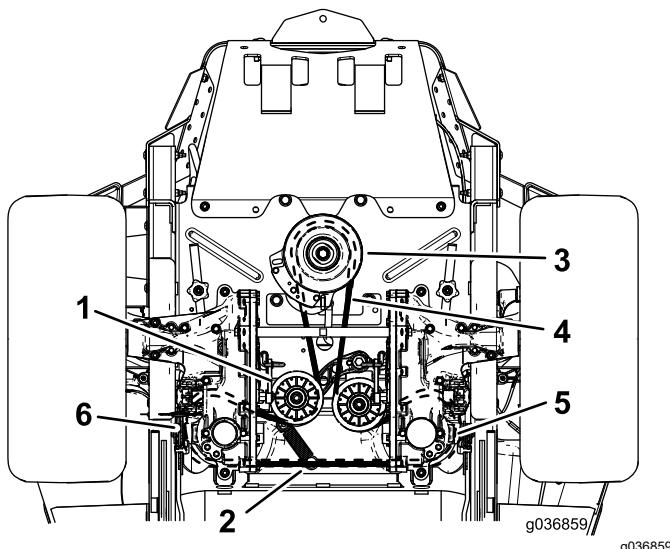

Figure 57
4. Raise the machine and support it with jack stands (Figure 57).
6. Remove the idler spring from the post (Figure 57).
8. Install the new belt around the engine pulley and the 2 hydraulic-pump pulleys (Figure 57).